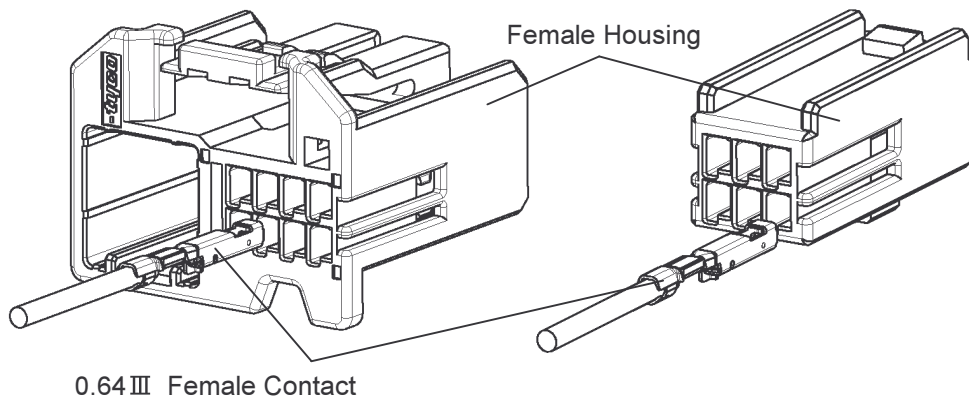

Fig.9
- (3) Insert the contacts into the housing with same direction as shown in Fig.9. The insertion is finished when the lance is locked and the contact can not be more inserted.